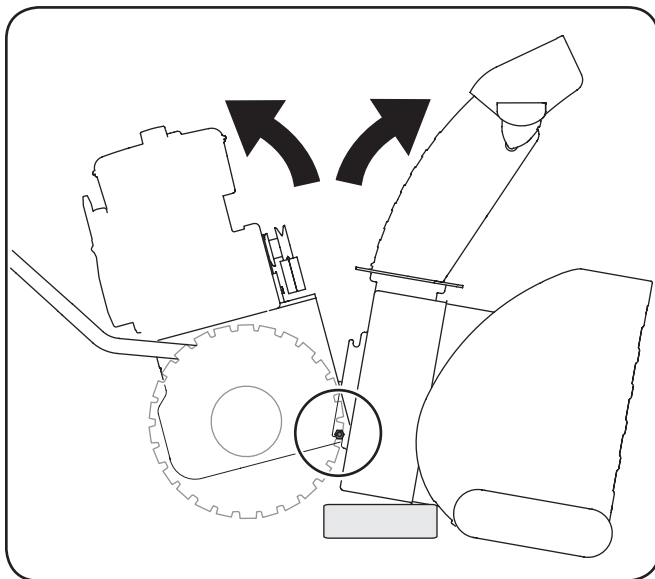

Figure 7-6
- Place a block of wood underneath the auger housing as shown in Figure 7-6 and separate auger housing from the transmission frame by tilting the housing forward and pulling up the handles.